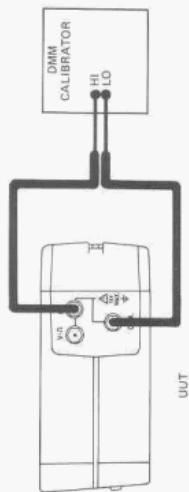

Figure 3-2. Current Test Setup
(1) Select the DC mA function on the UUT.
(2) Connect the equipment as shown in fig. 3-2.
(3) For each step in table 3-5 select the listed UUT range, program the DMM calibrator for the corresponding UUT input, and verify that the UUT displayed value is within the limits listed.
(1) Select the AC mA function on the UUT.
(3) For each step in table 3-6 select the listed UUT range, program the DMM calibrator for the corresponding UUT input, and verify that the UUT displayed value is within the limits listed.